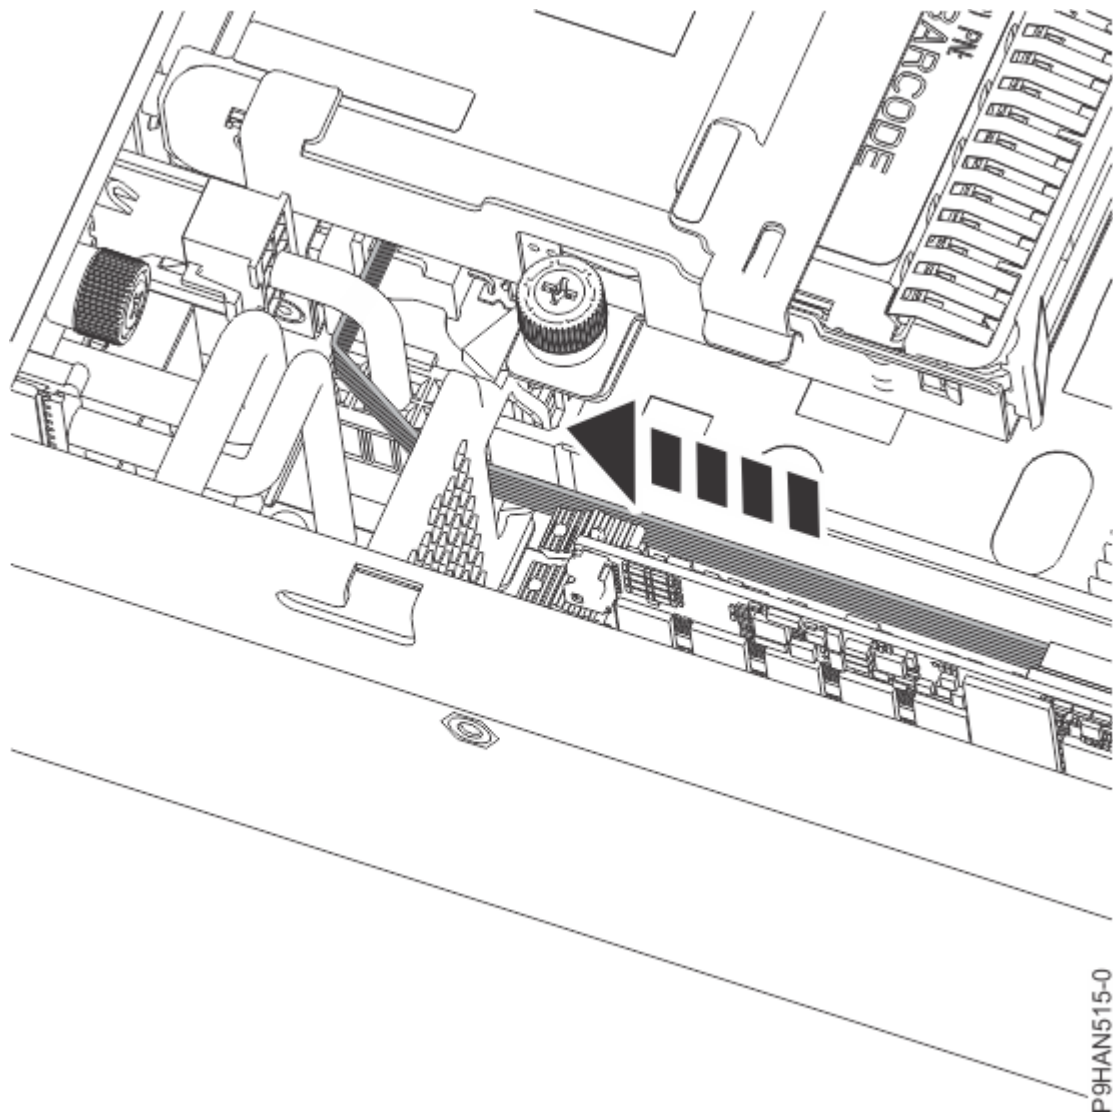

Figure 8. Pulling the BPM cable forward.
- a) Provide slack in the BPM cable by pulling the BPM cable forward about 5 cm (2 in) in the direction shown in Figure 8 on page 11.